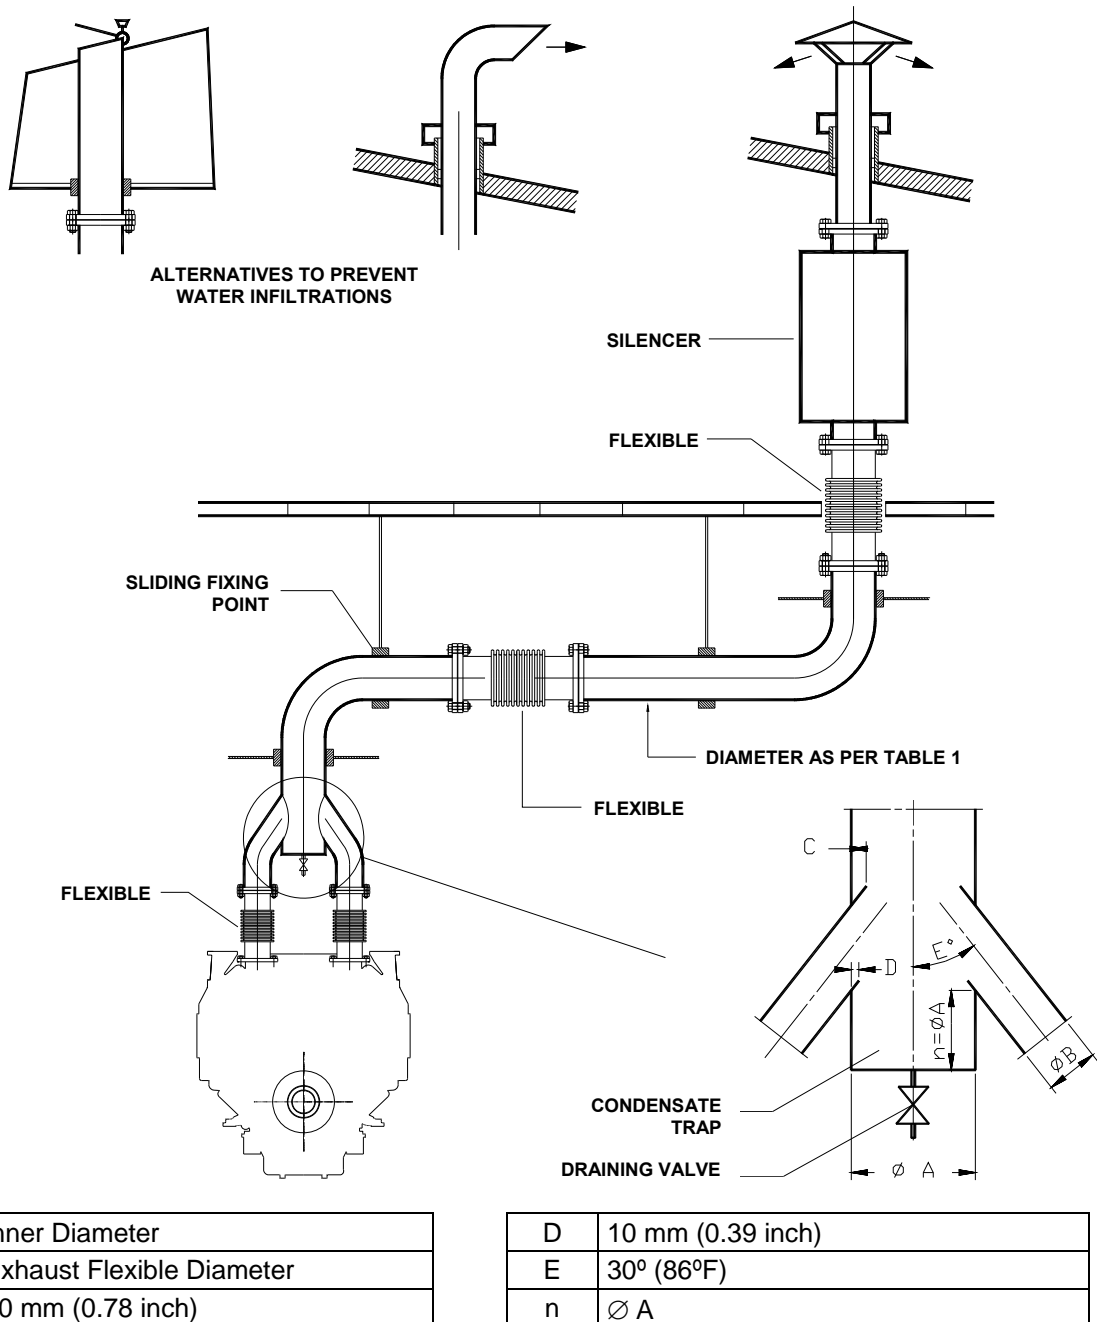

Fig. 1 – “V” Engine Installation of Exhaust Pipeline
- For completion of the exhaust pipeline, there must be a condensate trap installed at the lower end of the last vertical run of exhaust pipe as well as one draining valve (see Figure 1).